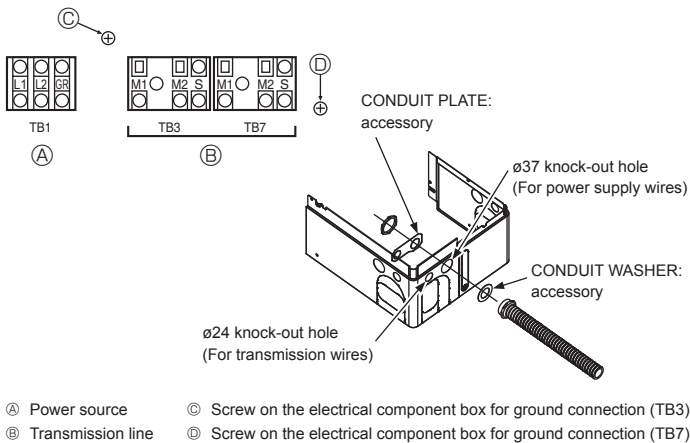

Fig. 6-1
- ⑨ Before turning outdoor unit on, be sure to turn the indoor units on.
6.2. Control box and connecting position of wiring (Fig. 6-1)